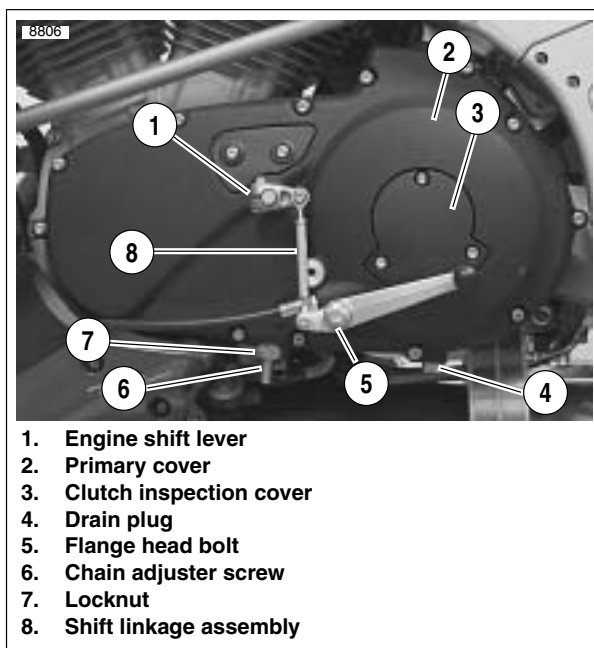

Figure 6-8. Installing Shift Linkage
12. See Figure 6-8. Install rubber washer and engine shift lever assembly (1).
13. After applying LOCTITE 271, install flange bolt (5) and shift pedal to primary cover, and tighten to 22-24 ft-lbs (30-32.5Nm).
15. If the shift linkage assembly (8) was removed for any reason, apply Loctite 271 to fasteners and tighten to 36-60 **in-lbs** (4-6.8 Nm). Adjust to rider comfort.